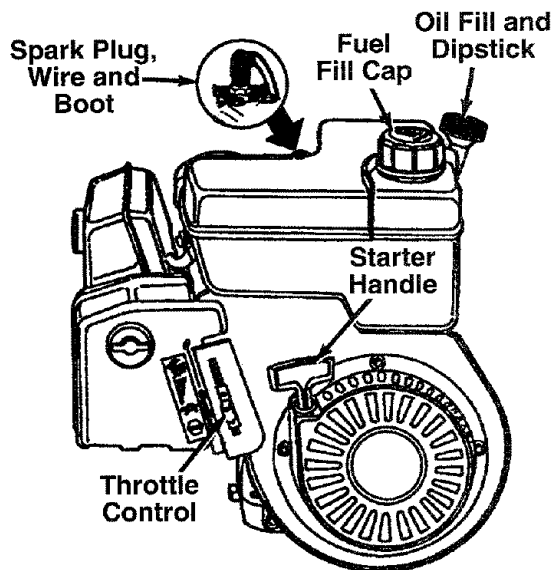
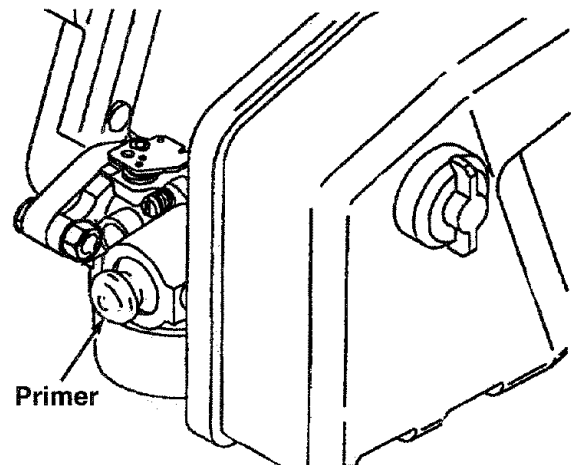

FIGURE 13.
FIGURE 14.
**MAKE CERTAIN THE SPARK PLUG WIRE IS DISCONNECTED AND MOVED AWAY FROM THE SPARK PLUG BEFORE ASSEMBLING THE CHIPPER-SHREDDER. REFER TO FIGURE 13, PAGE 11.**
**PRIMER**—Pumps additional fuel from the carburetor to the cylinder for use when starting a cold engine. See figure 14.
- Attach spark plug wire and rubber boot to spark plug. See figure 13.
- Place the throttle control lever in FAST position (UP).
- Push primer two or three times prior to starter operation. See figure 14. Use sharp pushes and wait about **two seconds** between each push. In cold weather (50°F or below), push primer five times.
- Grasp starter handle (see figure 13) and pull rope out slowly until engine reaches start of compression cycle (rope will pull slightly harder at this point). Let the rope rewind slowly.